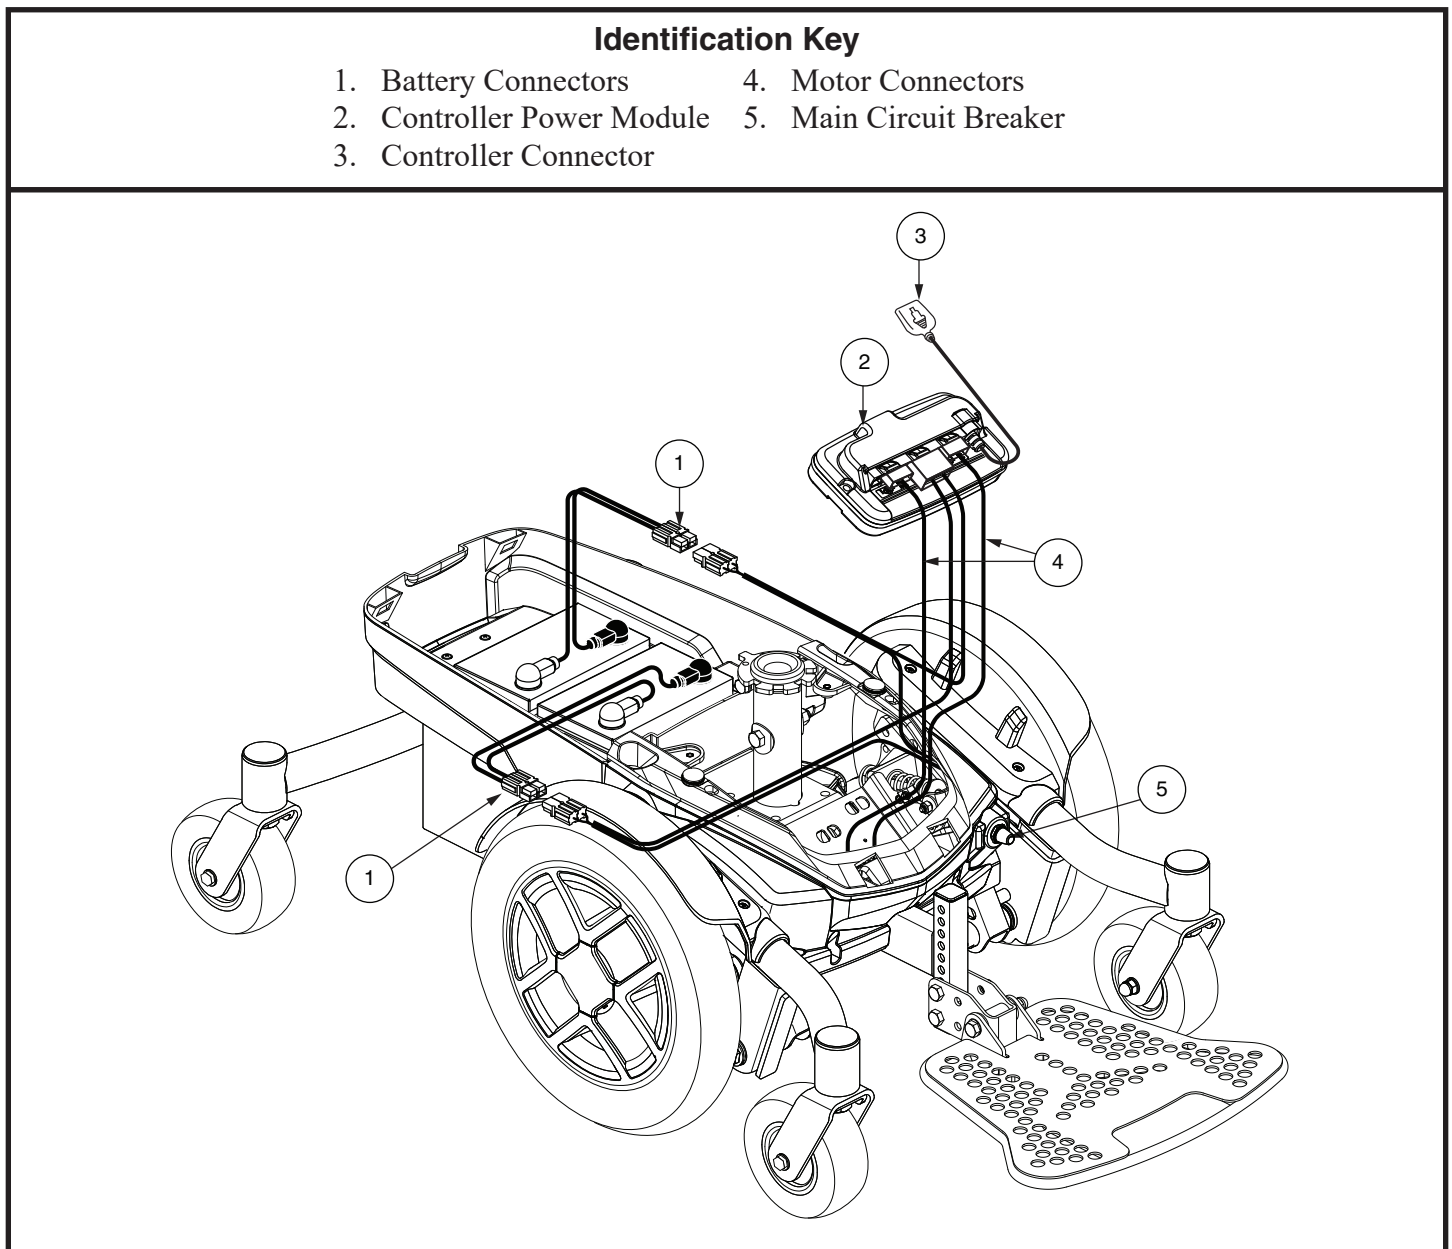

Figure 3. Jazzy EVO 613 with SLA Batteries Electrical Components
The electrical components are located either on or inside the power base. The main circuit breaker is located on the front of the power base. The power module is located under the front cover. See figures 3 and 4.
4. Plug the controller harness into the connector on the power base. See figure 3 or 4.